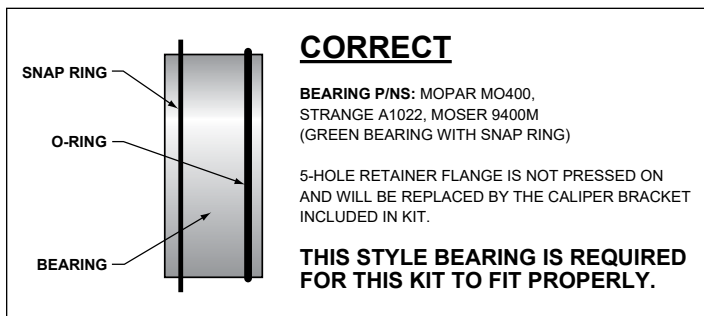
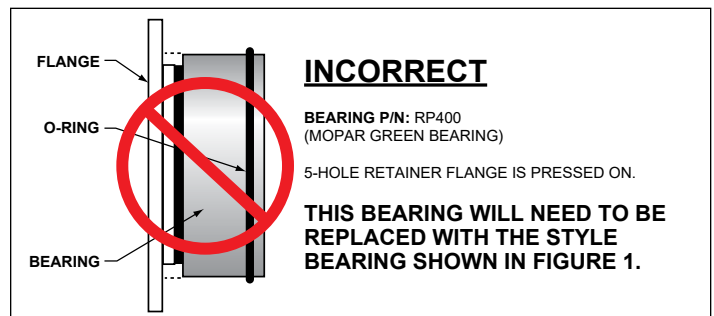

Figure 1. Snap Ring Bearing Configuration
Figure 2. Press Fit Bearing Configuration
- There are two types of “Green Bearings” being supplied by axle manufacturers. Your setup should look like Figure 1 (below left), not the Figure 2 configuration, otherwise this kit will not fit.
- That the bearing is the snap ring style bearing with removable flange (see Figure 1, page 2).
- Determine that the appropriate snap ring style Green bearing has been installed on the axle, as shown in Figure 1.